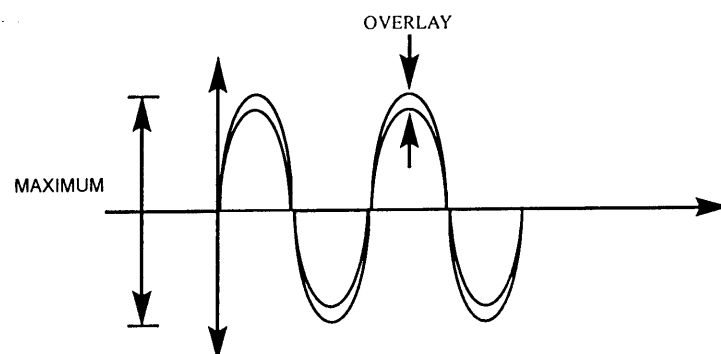

Fig.18
4. Adjust VR002 to obtain a waveform as Fig.18.